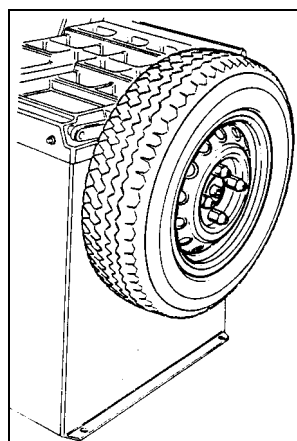

fig.14
- Fig. 14 shows the attachment system for car wheels using the universal 3/4/5 hole flange.